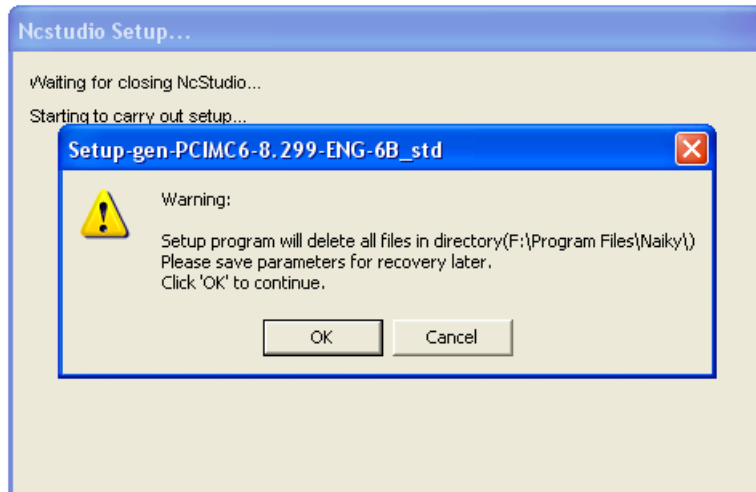

Fig. 2-3 Save parameters before installation
- Click [YES] to continue. See Fig. 2-3.